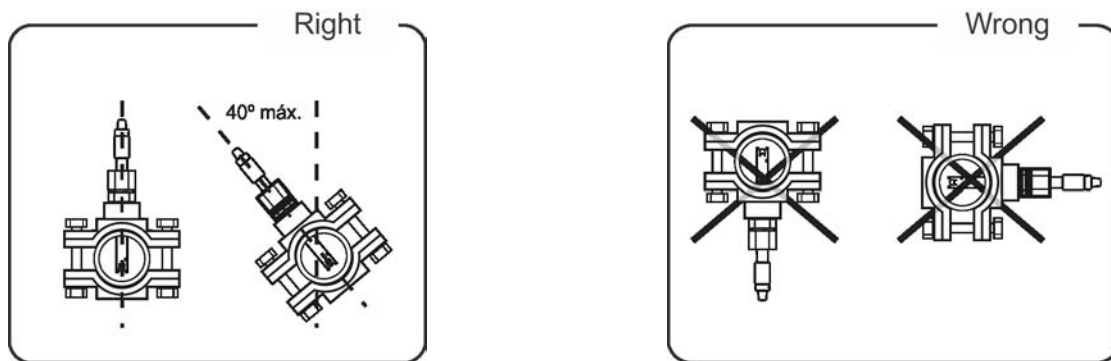

Fig. 9
4. **Install always the electrodes vertically or with a maximum inclination of 40°.** (Fig. 9).